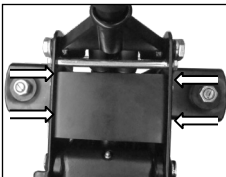
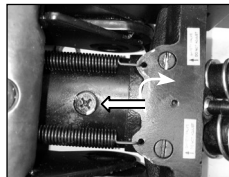

fig 9.
fig 10.
2. Remove the 4 screws fixing the pump cover to the jack and remove the pump cover [fig.9].
3. Remove fluid filler plug [fig.10]. Hydraulic fluid level should be visible at the oil filler hole approx 12 mm below fluid filler, top as required (refer to the "Maintenance and Storage" pg 7).
With Head Cap (1) fully lowered & the Jack on level ground, remove the 4 screws and lift the pump cover (fig 9.) Remove air vent valve (fig 10). Hydraulic fluid level should be visible at the air vent valve hole approx 12mm below air vent valve hole, do not overfill. If low, add fluid as needed then close air vent valve.